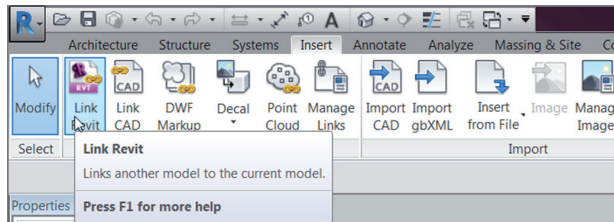

FIGURE BC6.1: The Link Revit button on the Link panel of the Insert tab
3. On the Link panel of the Insert tab, click the Link Revit button, as shown in Figure BC6.1.